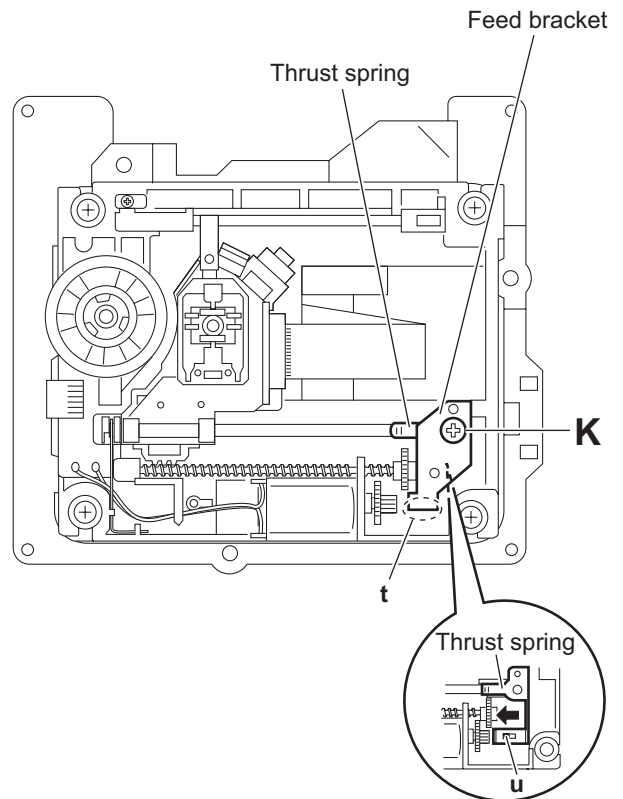

Fig.18
### 3.3.10 Removing the feed motor (See Figs.18 and 19)
- (1) From the top side of the DVD traverse mechanism assembly, remove the screw **K** attaching the feed bracket and remove the feed bracket from the sections **t**. (See Fig.18.)
- (2) Release the claw **u** of the thrust spring in the direction of the arrow and remove the thrust spring. (See Fig.18.)